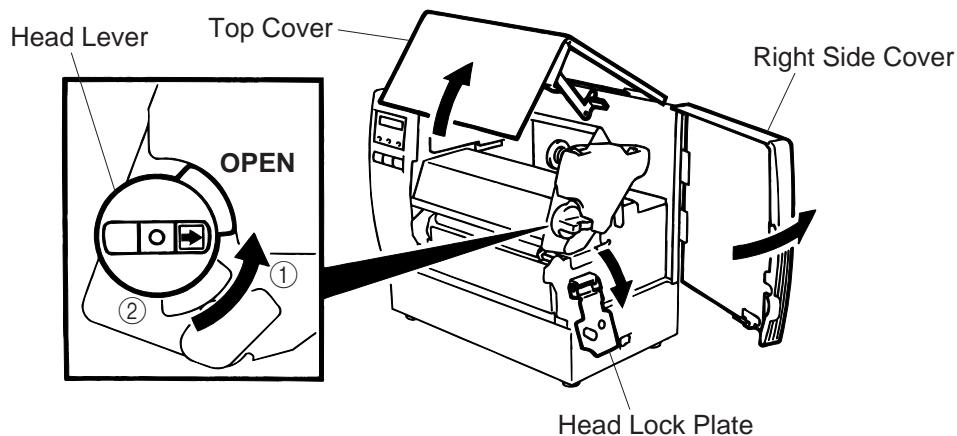

Fig. 7-1
9. Turn the head lever to the proper position depending on the used media. (Refer to Fig. 7-1)
- ①: Labels or thin tag paper
- ②: Thick tag paper
**CAUTION:** When using labels ensure that the head lever is set to position ①.